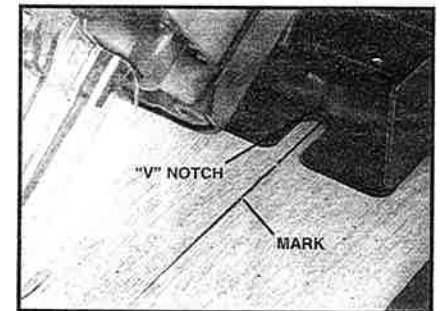

Fig. 11
4. Place material to Pocket Cutter aligning a pencil mark with the center of the "V"-notch in the work clamp roller (see Fig. 11). Rotate work clamp lever counterclockwise to secure workpiece to machine.